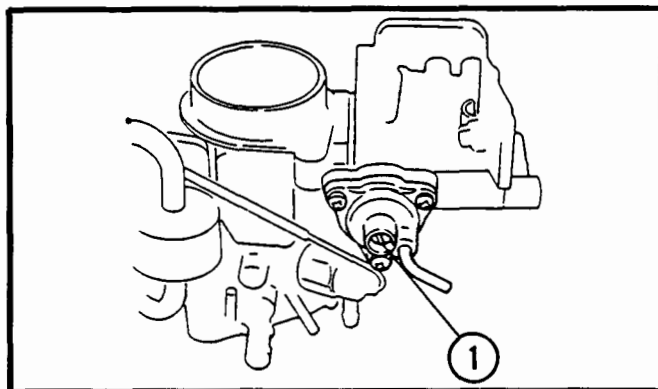

Figure 26.
3. Adjust choke plate angle by turning the adjusting screw. See Figure 26.